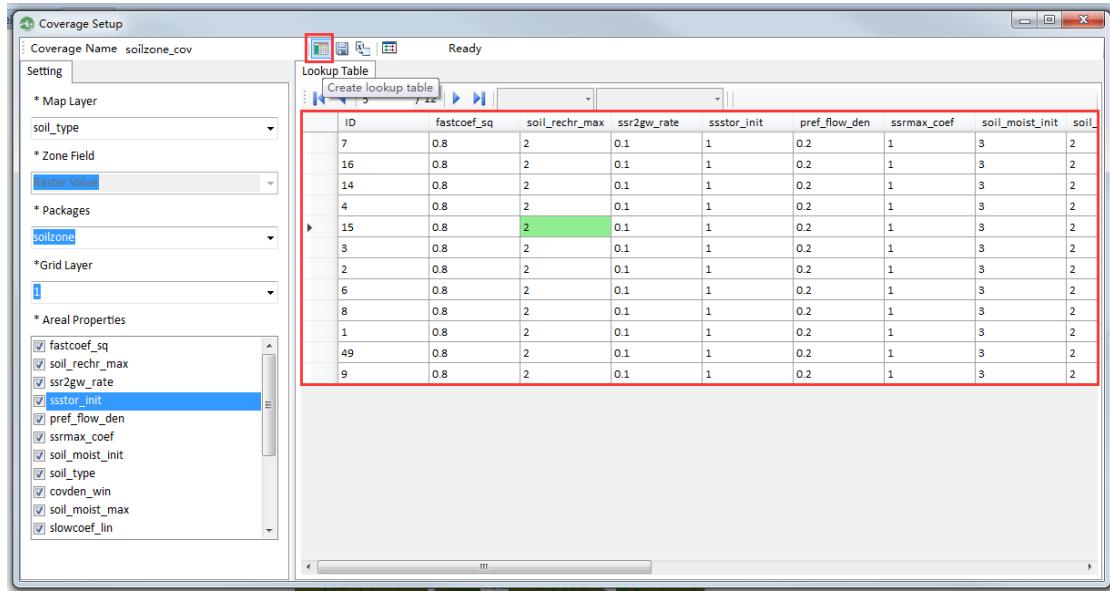

Figure 5-6. Create lookup table
- 4) Click “Create Lookup Table” in the toolbar (Figure 5-6), then a lookup table that relates the soilzone parameters to the “soil_type” map layer is created and displayed in the data table: